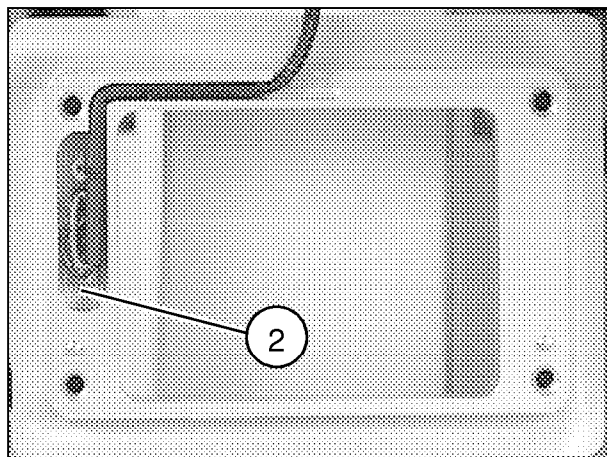

Fig. 15
- Replace the switch (2/Fig.15).